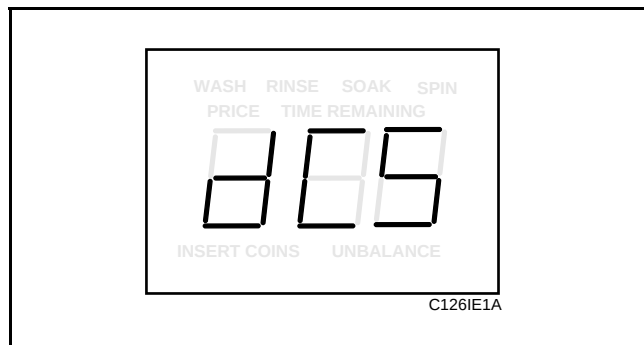

Figure 74
3. Press the DELICATES (+) pad or the COLD (-) pad to scroll through the programmable options until “dCS” appears in the VFD. See **Figure 74**.